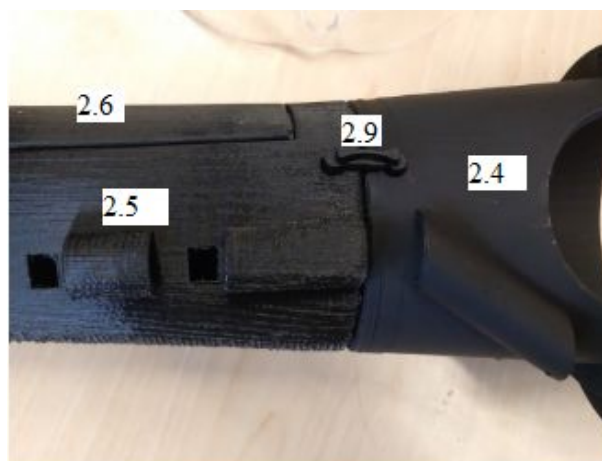

Figure 2.3.6: Insert Key
The key attachment (item 2.8) is used to secure the two halves in place, and can be pressed into the keyholes as figure 2.3.6 depicts.